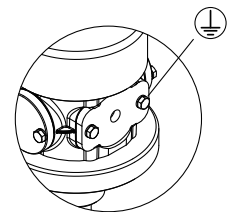

Fig. 8 Position for connecting the ground wire
- 1) When installing the pump, be sure to connect the ground wire at the specified position. For the specified position for connecting the ground wire, see "1. Names of parts and materials". (Fig. 8)